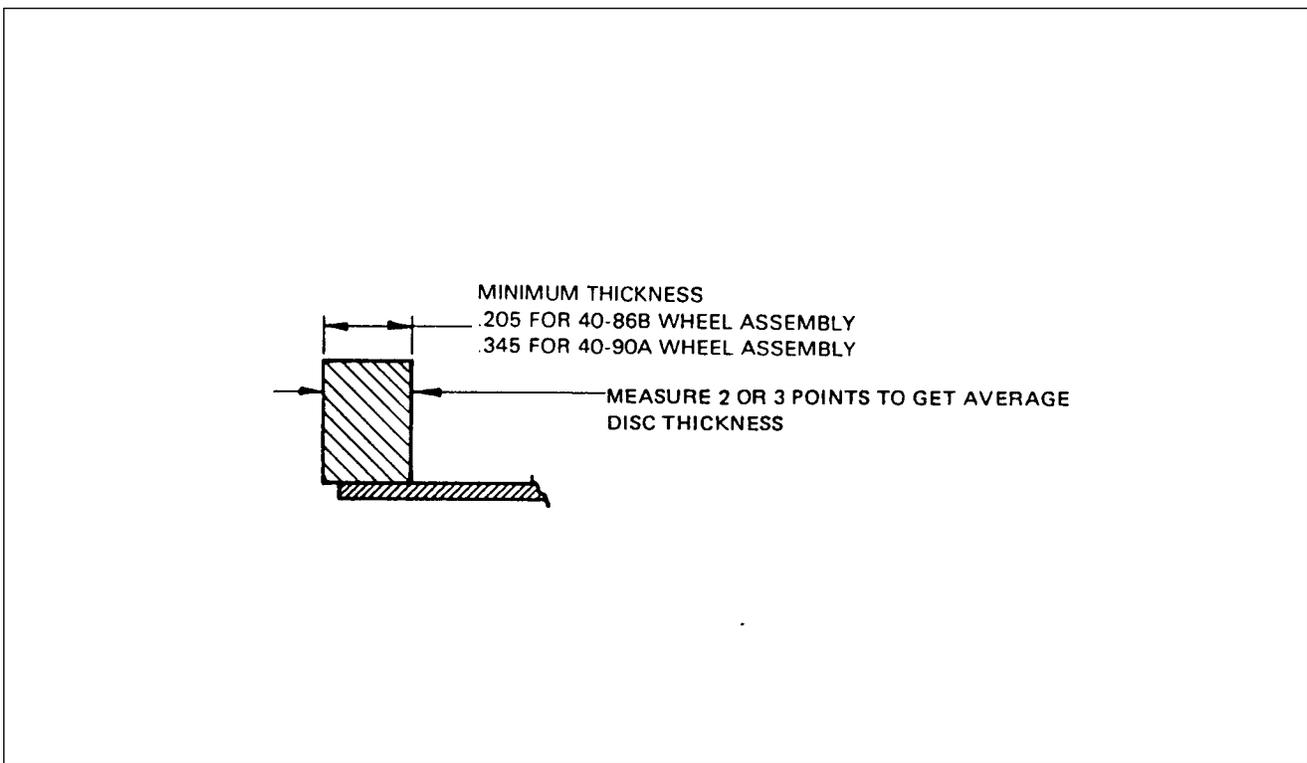

Figure 32-12. Brake Disc Minimum Thickness
4. Check brake disc for grooves, scratches, or pits. Minimum thickness of 164-20 disc used on 40-86B wheel assembly is 0.205. For 164-22A disc used on 40-90A wheel assembly, minimum thickness is 0.345. (Refer to figure 32-12.) A single groove or isolated grooves up to 0.031 of an inch deep do not necessitate replacement, but a grooving of entire surface will reduce lining life and lining should be replaced. If a heat crack exceeding 0.800 of an inch in length of if crack depth exceed 0.210 of an inch, disc must be replaced. If crack depth is not measurable, replace disc if crack length exceeds 0.400 of an inch. Should any heat crack extend into welded seam between flange and cup, replace it immediately. If it is necessary to remove the wheel disc, refer to Removal and Disassembly of Main Wheel.
**REMOVAL OF MASTER CYLINDER (HAND BRAKE) (figure 32-12)**
**INSTALLATION OF MASTER CYLINDER (HAND BRAKE)** (figure 32-12)